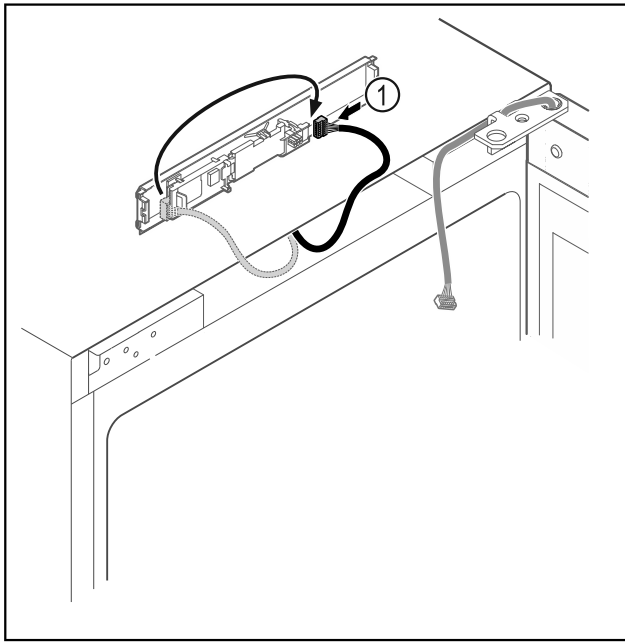

Fig. 20
- ▶ Connect the plug Fig. 20 (1) to the circuit board.